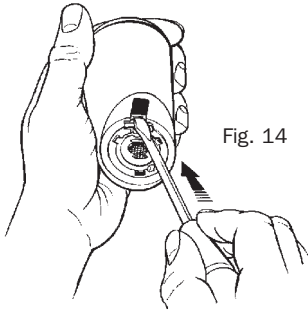

Fig. 14
2. To detach riser rail bracket covers from their brackets, press screwdriver against locking tab, as shown in Fig. 14, and push bracket out.